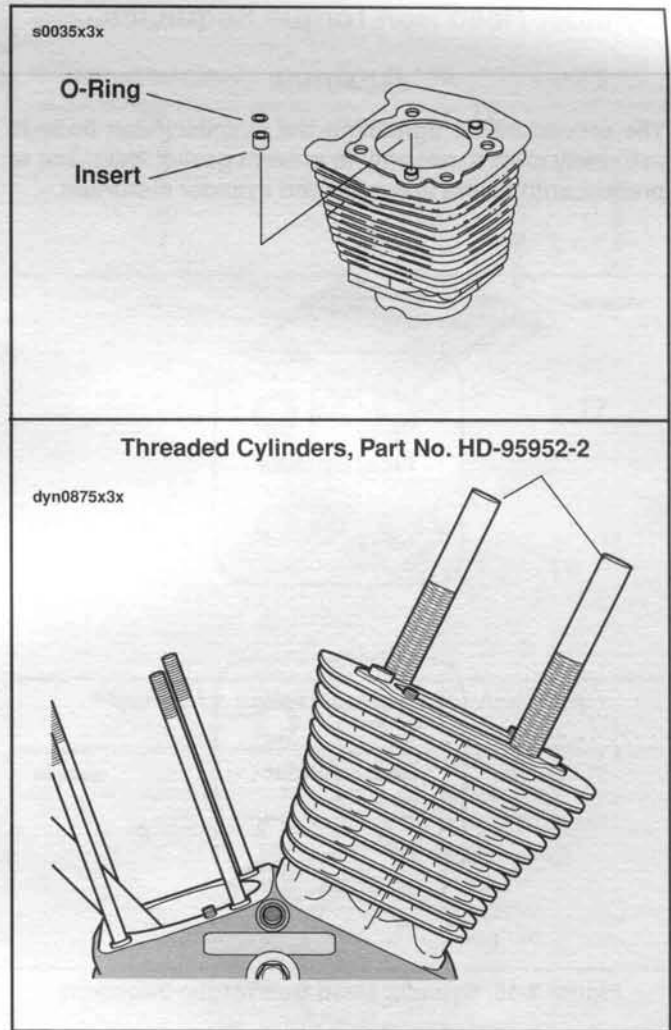

Figure 3-15. Cylinder Installation
1. See Figure 3-15. Install threaded cylinders from **CONNECTING ROD CLAMPING TOOL**, Part No. HD-95952-2, to cylinder studs to hold the first cylinder in position while installing the second cylinder. This will prevent the seal from breaking between the cylinder and the crankcase while installing the second cylinder.